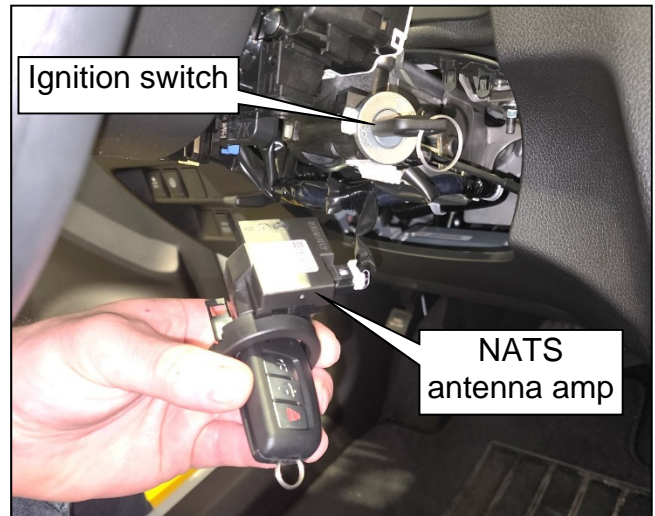

Figure 11
- c. Hold the keyless entry remote in the center of the NATS antenna amp as shown in Figure 11.